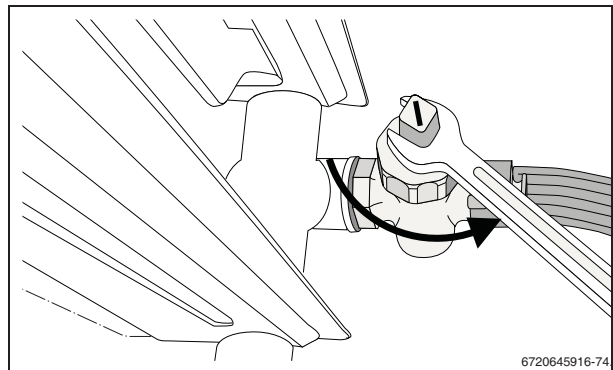

Fig. 73 Draining the heating system (example)
- Drain the heating water at the lowest point of the heating system, using the drain cock or the heating body (fig. 73). The (automatic) air vent at the highest point of the heating system/radiator must be open.